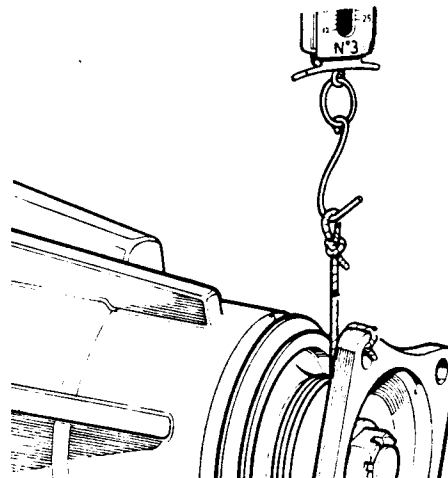

Fig J2.54
- (1) Refer to Fig J2.54. Tie a length of cord to the driving flange, then coil it around the flange hub.
- (2) Attach a spring balance to the loose end of the cord.